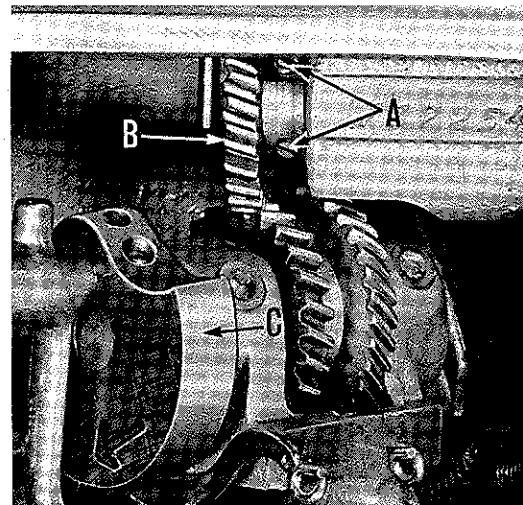

Fig. 4
The needle should be timed so that, on its downward stroke, it is $1/4$ inch from the center of the plunger when the plunger reaches its highest point of travel. To accomplish this adjustment, loosen the screws (A, Fig. 4) in the driving gear (B) and remove the gear. Turn the handwheel in operating direction until the plunger just reaches its highest position. Do not continue to turn the handwheel after the plunger has first reached its highest position. Now, turn the needle crank (C) in the direction of its arrow until the needle, when on its downstroke, is within approximately $1/4$ inch of the center of the plunger.